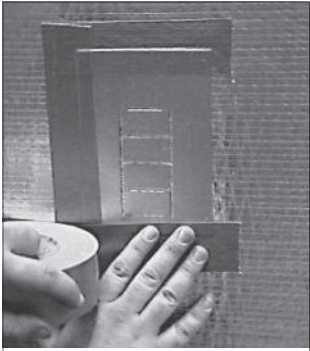

Figure 5
- Mount the supplied metal mounting plate onto the duct with duct tape in either a vertical or horizontal position (Figure 5).